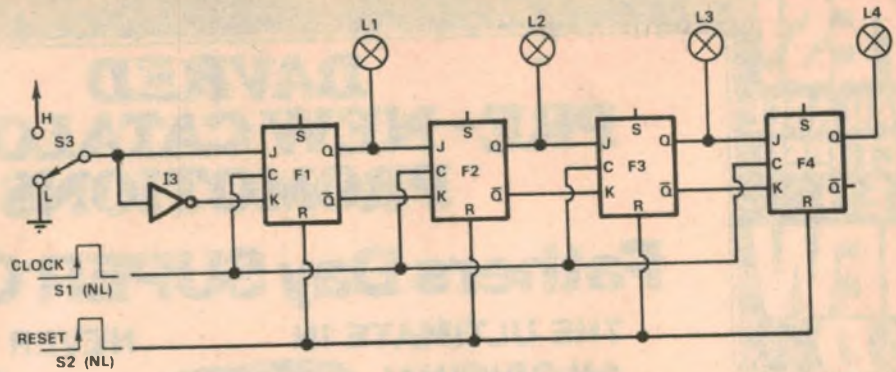

FIG. 2 - 4-BIT SHIFT REGISTER
The second major use of flipflops is to form shift registers. Fig. 2 shows how this is done. As before, the Q outputs are connected to the indicating LEDs. The clock inputs of all the flipflops are connected together, and the resulting "clock line" is connected to the normally low (NL) output of S1. The "reset line", formed by connecting all the reset inputs together, is connected to the NL output of S2.